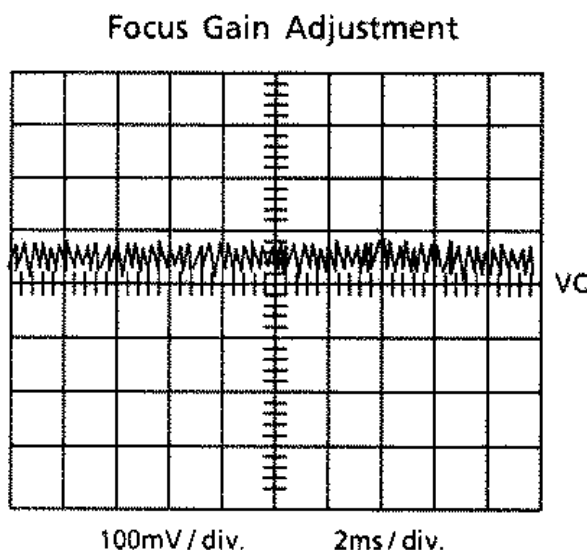

Fig. 1
1. Connect an oscilloscope to TP 501 pin(FE) and TP 501 pin8 (VC).
3. Adjust R522 (F.GAIN ADJ.) so that the correct waveform as shown in figure 1 is obtain.